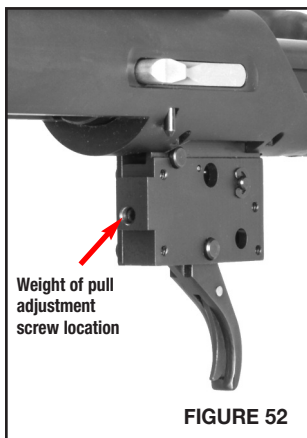

FIGURE 52
- Locate the weight of pull adjustment screw (FIGURE 52).